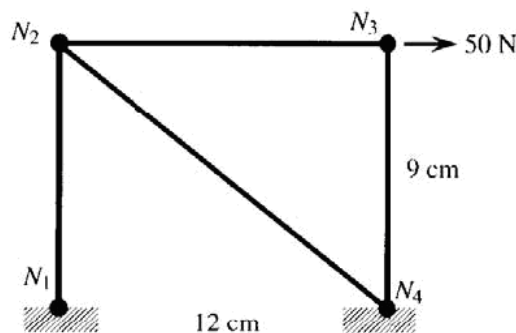

Figure 1
4. For a two-dimensional truss structure, as shown in the figure 1, determine displacements of the nodes and normal stresses developed in the members using FE. Use $E = 30 \times 10^6 \text{ N/cm}^2$ and a diameter of the circular cross-section of 0.25 cm. [10]